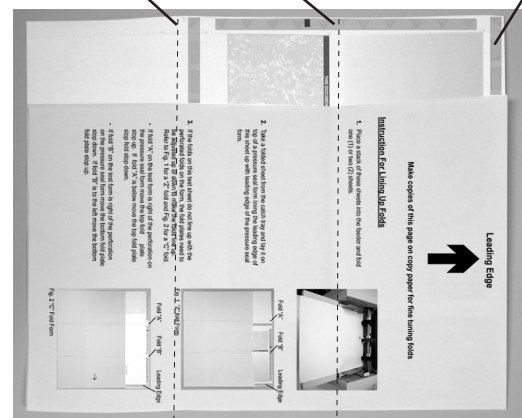
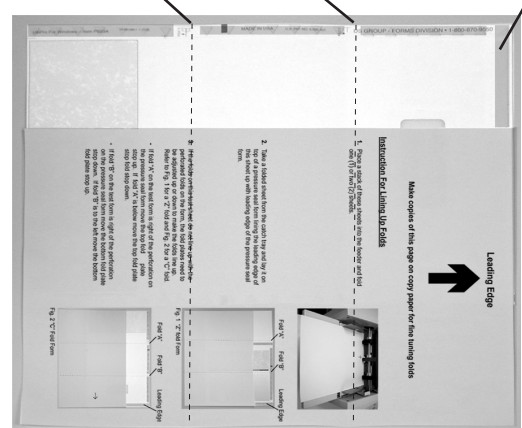

Fig. 35 "Z" fold Form
Fig. 36 "C" fold Form
3. If the folds on this test sheet do not line up with the perforated folds on the form, the fold plates need to be adjusted up or down to make the folds line up. Refer to Fig. 35 for a "Z" fold and Fig. 36 for a "C" fold.